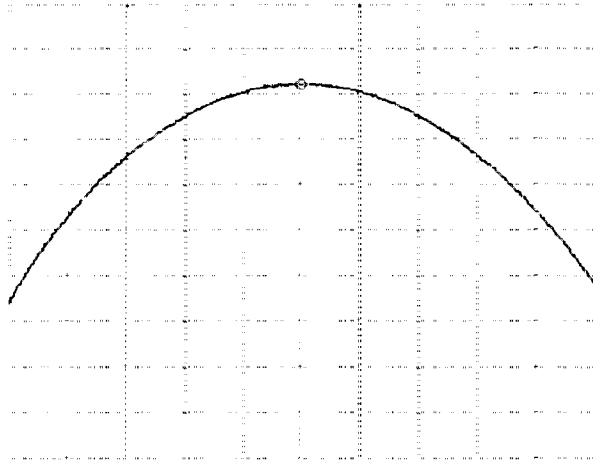

Figure 5-12. Second IF Adjustment
11. Alternately adjust A61 L4 and L5 to center the peak and equalize the level of the sides (see figure 5-12).